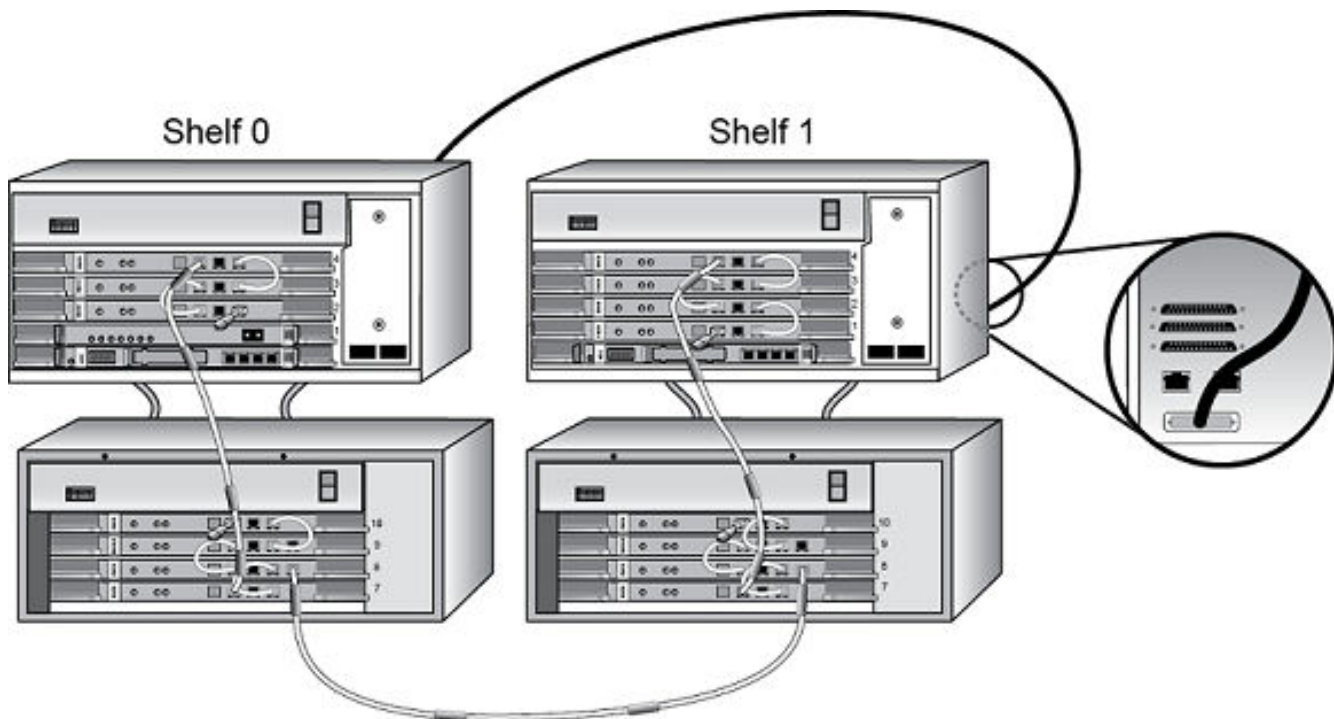

Figure 105: Example of two-shelf 15-card system in two MG1000E Chassis and Expanders
2. CS 1000E only -- install clock sync cable if you use a two-shelf configuration. For an example see Figure 105: Example of two-shelf 15-card system in two MG1000E Chassis and Expanders on page 177
Figure 105: Example of two-shelf 15-card system in two MG1000E Chassis and Expanders on page 177
Figure 105: Example of two-shelf 15-card system in two MG1000E Chassis and Expanders on page 177.